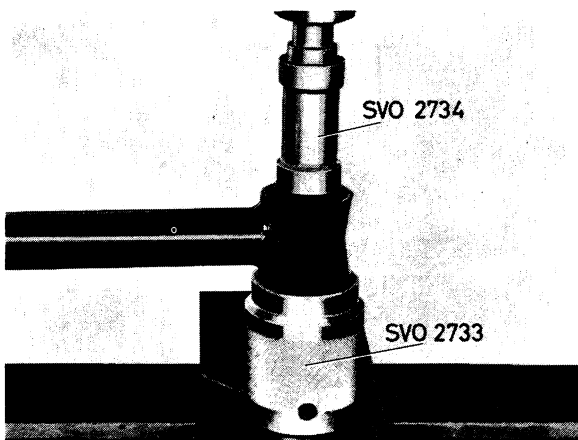

Fig. 7-8. Removing support stay bush
3. Press out the bushes with SVO 2734, and use SVO 2733 as a counterhold (see Fig. 7-8).